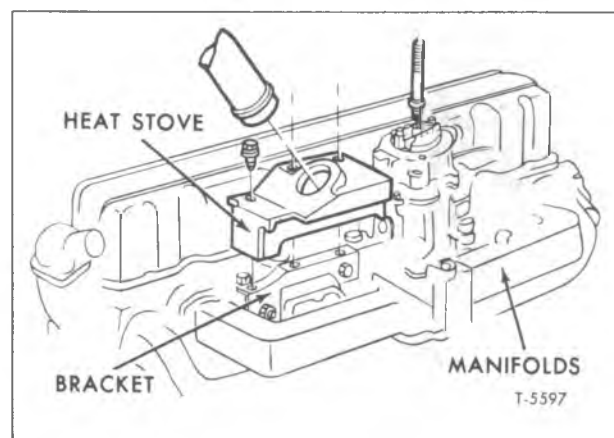

Figure 18—Manifold Heat Stove Installation (In-Line Engine)
6. On engines with sheet metal heat stove, remove the attaching screws, and remove stove parts (fig. 18) from exhaust manifold.